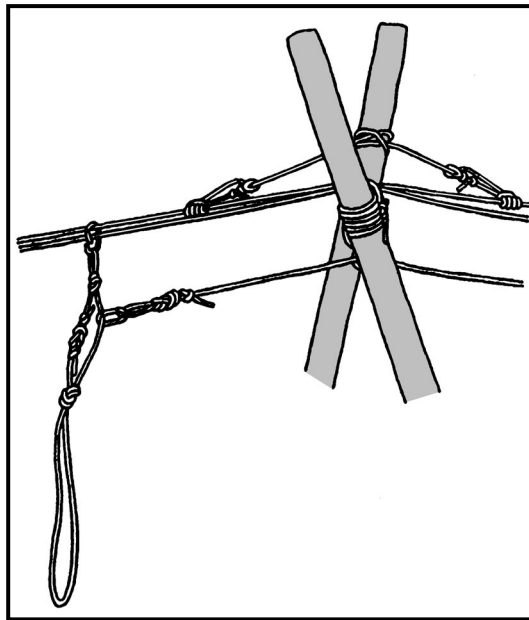

Figure 7-23. Carrying rope for use on a traverse.
(4) Use a carrying rope to attach loads to the traverse ropes (Figure 7-23). Join the ends of a 14-foot sling rope with a square knot and two overhand knots. Displace the knot one-third of the distance down the loop and tie an overhand knot both above and below the square knot. This forms two small loops and one large loop that is longer than the two small loops combined.
(5) Attach the carrying rope to the traverse ropes with carabiners (or a pulley) that have the gates reversed and opening in opposite directions. Attach a belay rope to the center loop of the carrying rope using a fixed loop or locking carabiner on the side opposite the joining knot (Figure 7-23). When the suspension traverse is near horizontal, a second rope may be needed to pull the load across and should be attached to the carrying rope the same as the first.
(6) Insert second carabiner into the one placed into the wraps of the A-frame. This is where a belay rope will be attached
(7) With a sling rope, tie a six wrap middle-of-the-rope Prusik knot to both static ropes near the far side off-loading point. This acts as a stopper knot for the man descending, preventing him from hitting the lower anchor.
(8) Attach the load by running the long loop of the carrying rope through the load or through the soldier's harness and attaching the bottom loop to the traverse rope carabiner.